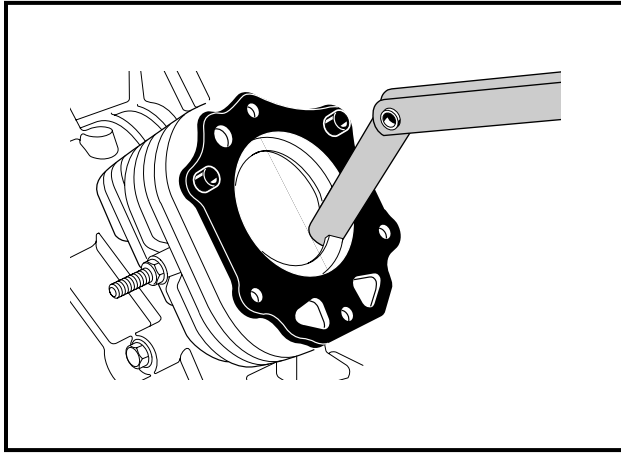

Figure 3-46 Measure Ring End-Gap
2. Use a feeler gauge to measure the ring end-gap (**Figure 3-46, Page 3-25**).